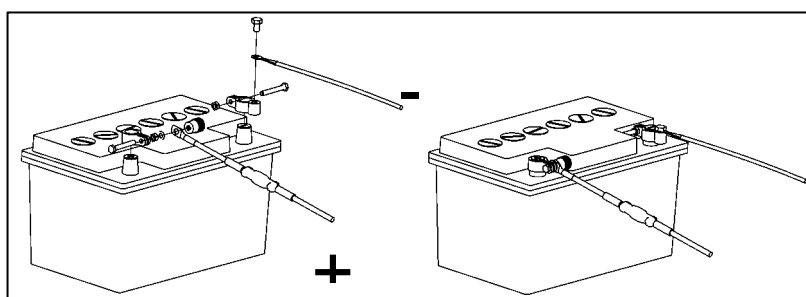

Fig. 47
- Route the "power unit cable," positive cable, and negative cable (25 mm²) for the power supply to the terminals provided for the battery and connect (see example in Fig. 47).